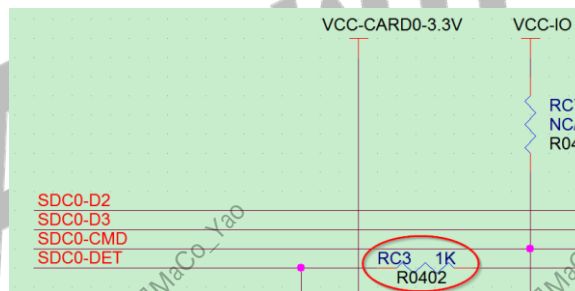

Figure 2-26 SDC0-DET Series Resistors
- Suggest that reserve the series resistors in the DET signal line. This is to avoid the signal undershoot when SD CARD is inserted to affect the signal quality and to improve the ESD performance of IO signals. As shown in Figure 2-26.